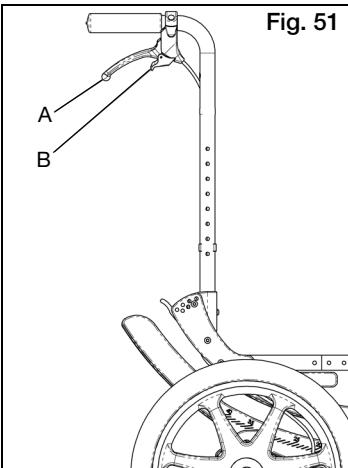

Fig. 51
- a. Squeeze brake levers (Fig. 51:A) on both sides of chair to activate brakes. Each side is operated independently and may be squeezed with more or less force to get more or less braking action.
- c. For parking brake function, squeeze each brake lever and, with trigger squeezed, use index finger to flip locking lever (Fig. 51:B) down into teeth on lever mount. While holding locking lever down, release brake handles and parking brake will remain engaged.